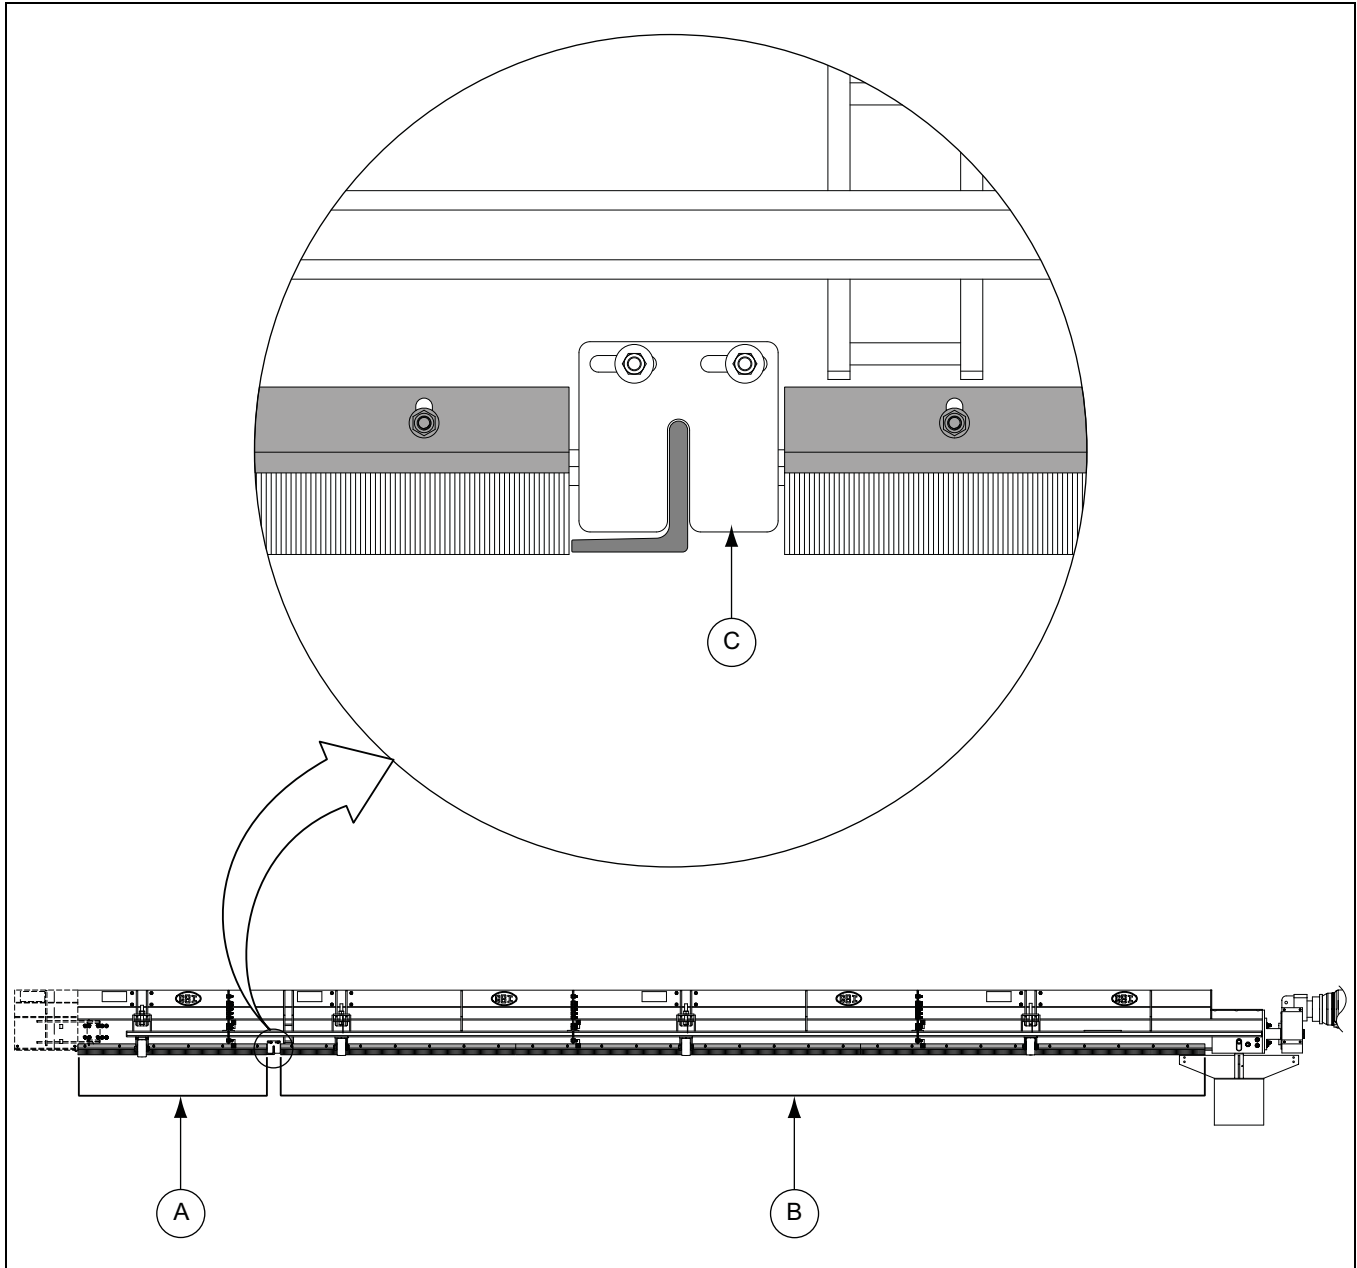

Figure 4Q
1. Measure and record the brush length needed from the sweeper head (B) to the track wiper (C) and from the track wiper (C) to the end of the sweeper (A). (See Figure 4Q.)